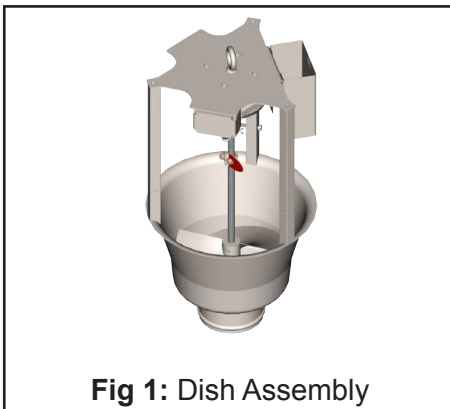

Fig 1: Dish Assembly
STEP 1: Locate the Dish Assembly, Floats and Float Arms. (See **Figure 1 & 2**)